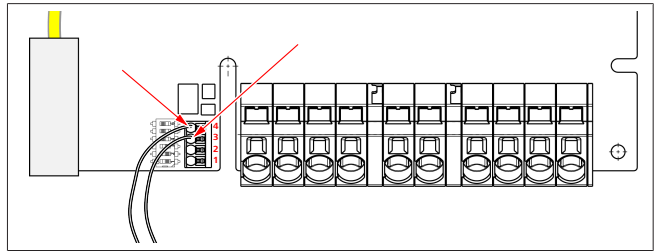

Fig. 9
The two cables from the ripple control receiver or the floating contact must be connected to this connector in positions 3 and 4 (see Fig. 9). The two cables can be assigned to pos. 3 and 4 in any order (sequence) (max. cable cross-section 1.5 mm2).